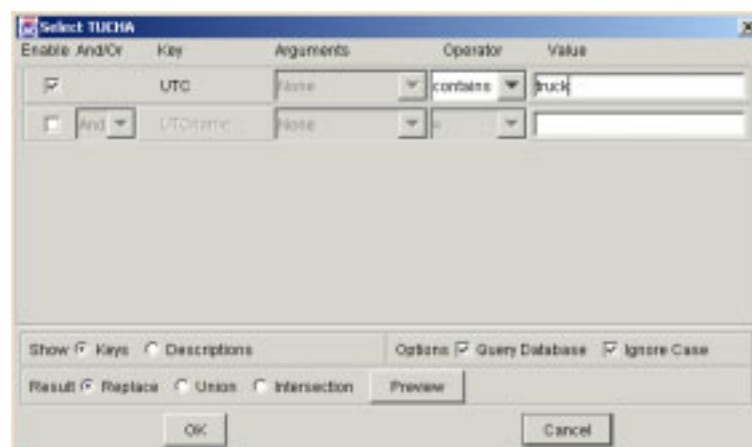

Figure 5.76 Select TUCHA Window
6. On the Select TUCHA window (Figure 5.76), enter the search parameters for the TUCHA file (e.g., UTCname contains truck).